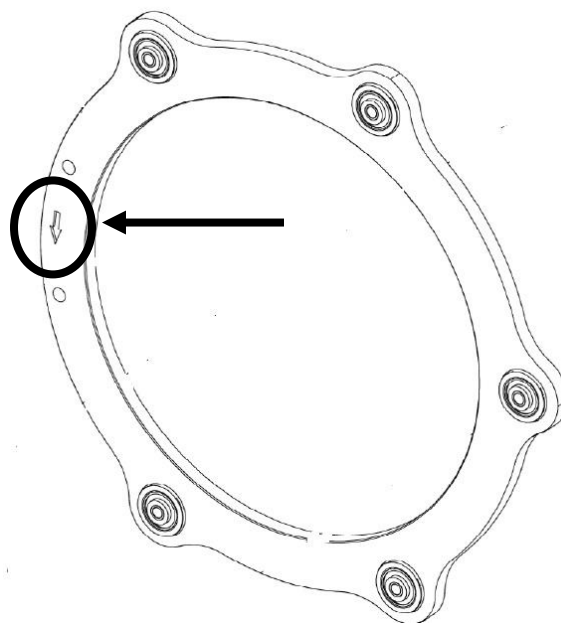

Figure 203
10. **Note: Make certain that the arrow on the center ring is pointing in the direction of rotation for the reel.** Figure 203